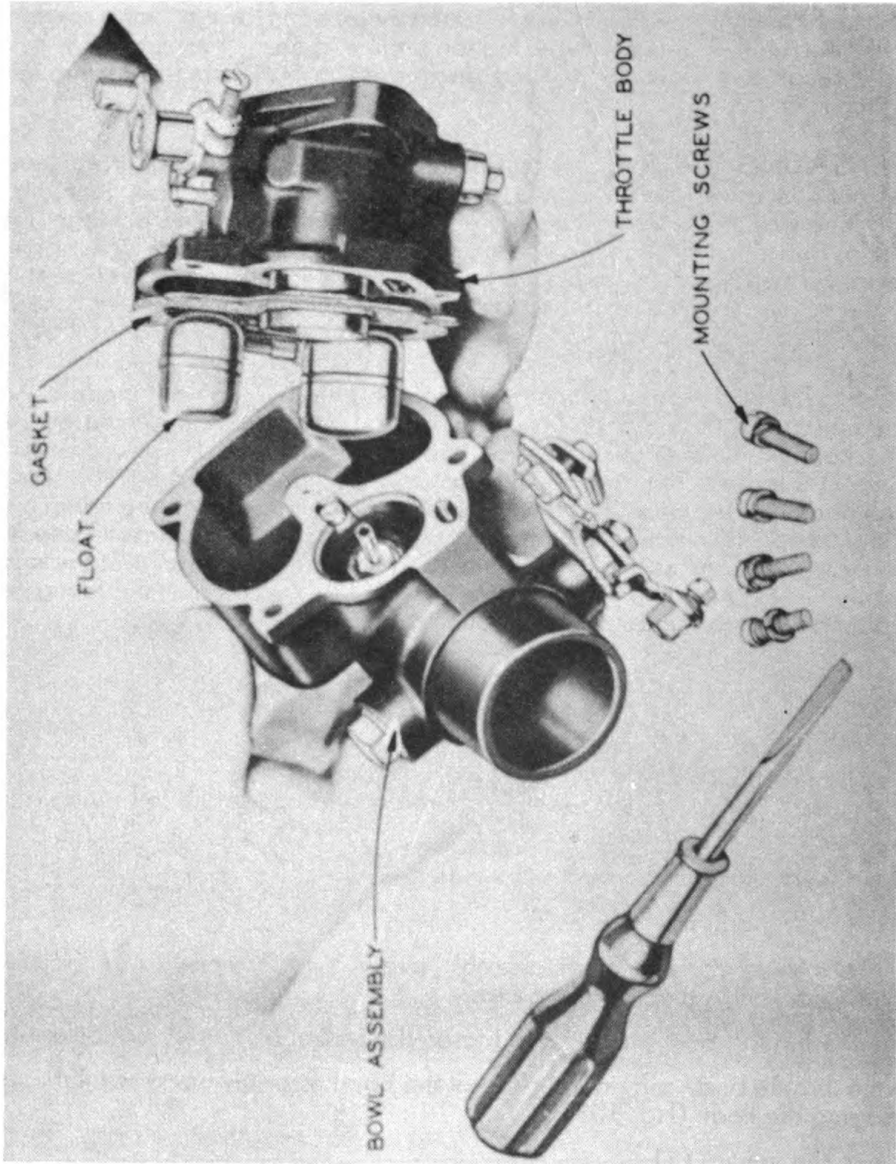
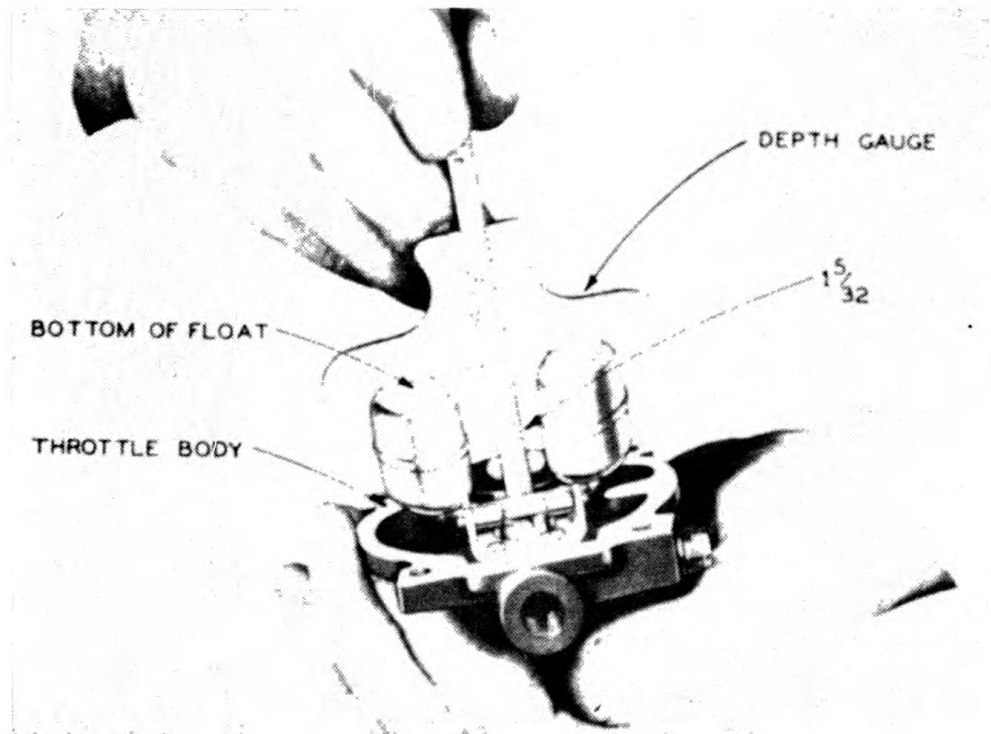

Fig. 103
Fig. 114
2. Remove idling adjusting screw (6) and spring
5. Lift the throttle body and gasket clear of the bowl assembly being careful to avoid damaging the float. (Fig. 103)
6. Remove the venturi (1).
22. Check position of float to obtain correct fuel level. In an inverted position the bottom of the float and the surface of the throttle body should be $1\frac{1}{32}$ " plus or minus $\frac{3}{64}$ ". Move gasket to one side when making measurement. (Fig. 114)
23. Place the venturi (1) in position in the throttle body.
24. Place the bowl assembly in position on the throttle body being careful to avoid damaging the float. (Fig. 103)
26. Install idling adjusting screw (6) and spring.